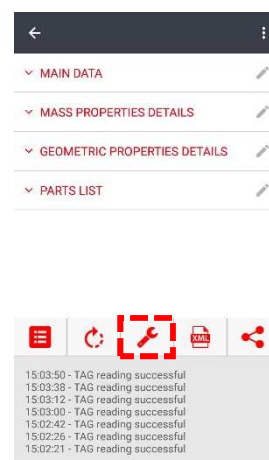
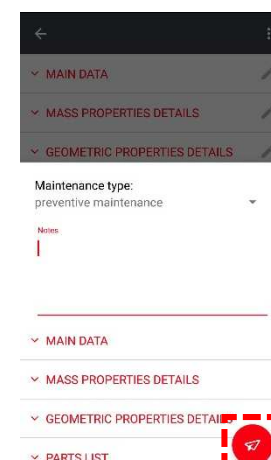

Figure 8
Figure 9
- Every time a tag is read by the application, if the smartphone is connected to the Internet, a data packet is sent automatically to the Gimatic Cloud. It is also possible to send an extra packet manually, clicking on the wrench icon, *Figure 8*, and then on the red button in the lower right part of the screen, *Figure 9*. With this function, the user can send to the cloud some text messages to communicate maintenance action among a predefined set, the possible choices are: preventive maintenance, component breakdown, component wear, regulation/calibration and configuration. In addition, it is possible to write some notes. This information can be sent also if the expert mode is disabled.